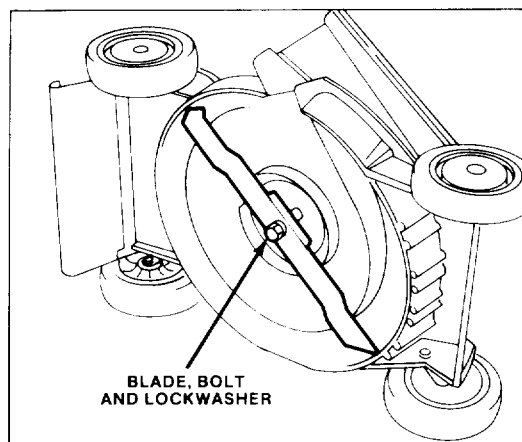

Figure 12
2. Tip mower on its left side (Fig. 12).
3. Tip mower on its left side (Fig. 12).
5. **REMOVING BLADE** — Grasp end of blade using rag or thickly padded glove. Remove blade bolt, lockwasher and blade (Fig. 12).